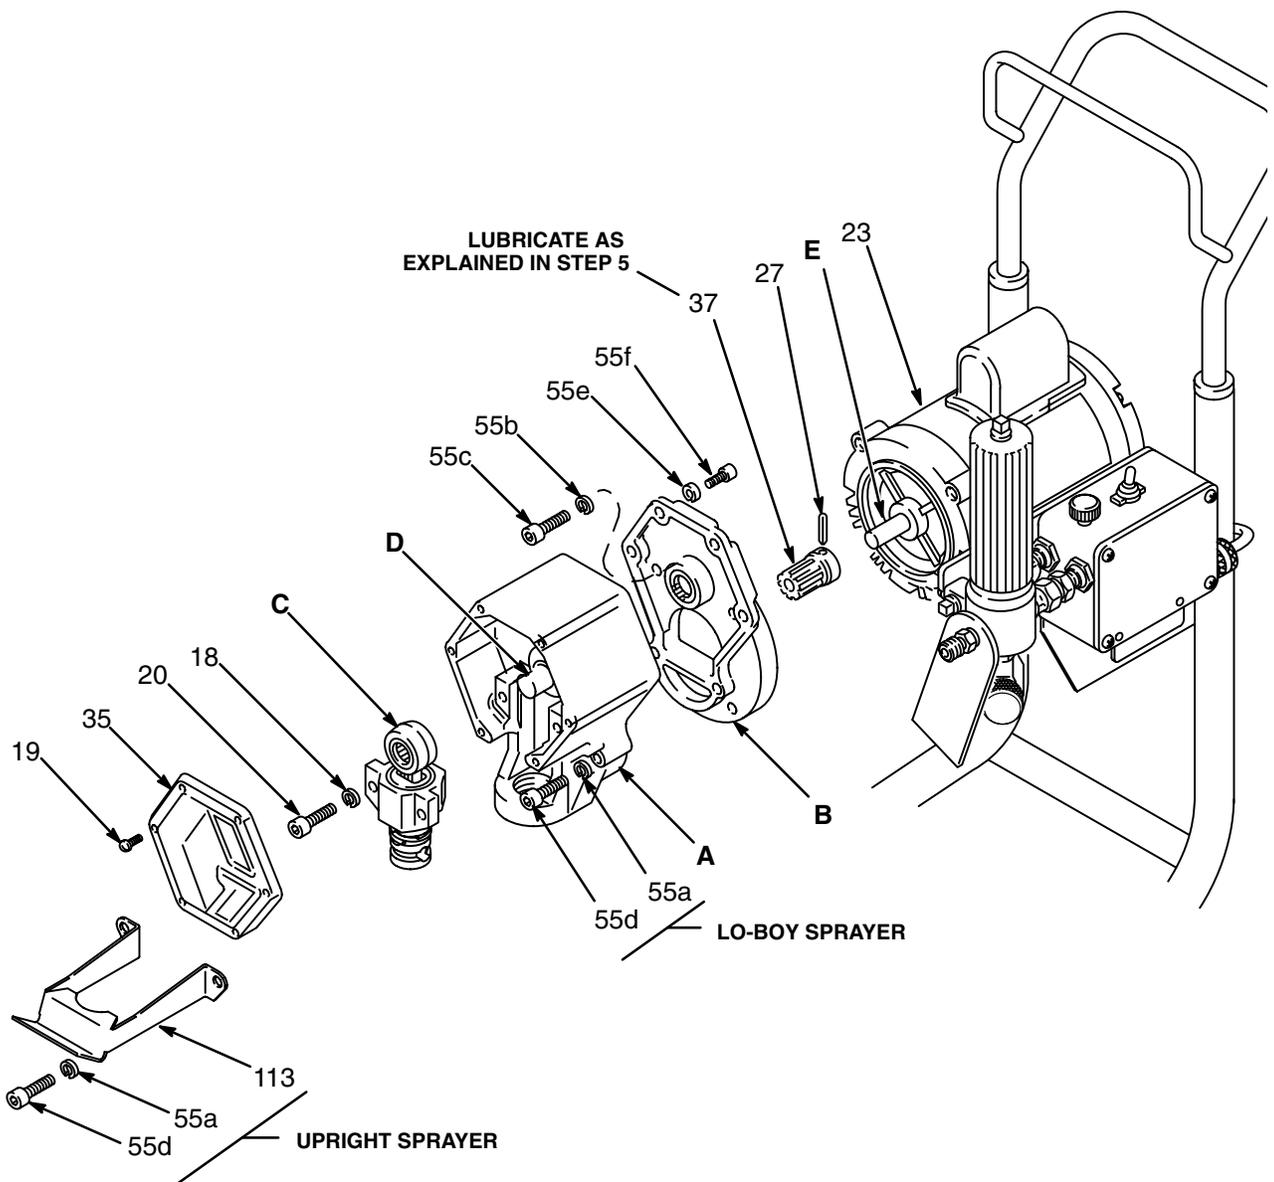

Fig 21-1
**NOTE:** Refer to Fig 21-1 for this procedure.
1. Remove the front cover (35). Remove the displacement pump. See page 18.
2. Remove the two screws (20). Pull the connecting rod and bearing assembly (C) off the crankshaft (D).
3. Remove the screws (55d and 55f) and pull the drive housing (A) off the motor housing (B).
4. Remove the screws (55c) and pull the motor housing (B) off the motor (23).
5. Clean the gear (37) and inspect it for wear or damage. Replace if necessary. To remove, drive out the pin (27) and pull the gear off the motor shaft (E). Apply molybdenum disulfide spray lubricant to the gear, allow to dry, then apply industrial-grade, heavy-duty, extreme-pressure, lithium-soap grease.